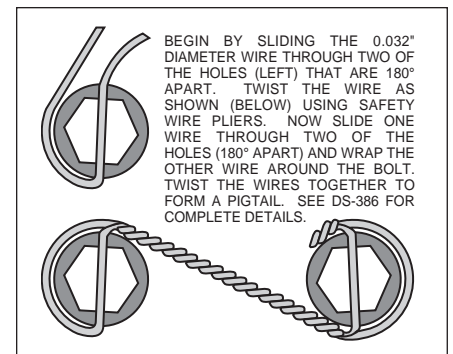

Figure 3. Safety Wire Diagram
- With the larger I.D. side of the rotor (6) facing away from the hat (7), bolt rotor (6) to the hat (7) through the backside of the rotor using washers (8) and bolts (9). Using an alternating sequence, apply red *Loctite*® 271 to the threads and torque bolts to 155 in-lb. For an added measure of security, the bolts may be safety wired using standard 0.032 inch diameter stainless steel safety wire as shown in Figure 3. Please refer to Wilwood's data sheet DS-386 for complete safety wire installation instructions. Slide the rotor/hat assembly onto the spindle. Check to be sure the hat seats squarely against the hub. Install a couple of lug nuts (finger tighten) to keep the rotor/hat assembly in place while continuing with the installation.
- Install spacer (14) and one washer (15) over each pre-installed stud (13) on the radial mount bracket (1). Slide the caliper (10) in place over the studs and rotor, then install the washer (12) and lock nut (11) to hold the caliper in place. The caliper bleed screws should be pointing up. Snug the lock nuts (11) and check that the rotor (6) is centered in the caliper (10). Add or subtract .029" shims (3) as necessary between the caliper mounting bracket (1) and the spindle to center the caliper (10).
- Remove the caliper center bridge pad retainer bolt, nut, and tube from the caliper. Slide the brake pads (16) into place. They should install easily without interference. Check that the outside radius of the brake pad is aligned with the outside diameter radius of the rotor face. Add or subtract shims (15) between the caliper (10) and mount bracket (1) to gain the proper alignment. Reinstall the center bridge pad retainer tube, bolt, and lock nut. The lock nut should be snug without play in the bolt or tube. Be cautious not to over tighten.
- Once all clearances have been checked, remove the wheel, caliper, hat, and rotor from the spindle and hub. Secure the caliper mounting bracket (1) to the spindle with bolt (2), washers (3), lock washer (4) and nut (5) as done previously using red *Loctite*® 271. Torque bolt (2) to 75 ft-lb. Reinstall the hat and rotor assembly and again using two lug nuts (finger tighten) to hold it in place. Lubricate caliper mounting studs and nuts with lightweight oil, reinstall the caliper, torque the caliper nuts (11) to 28 ft-lb.